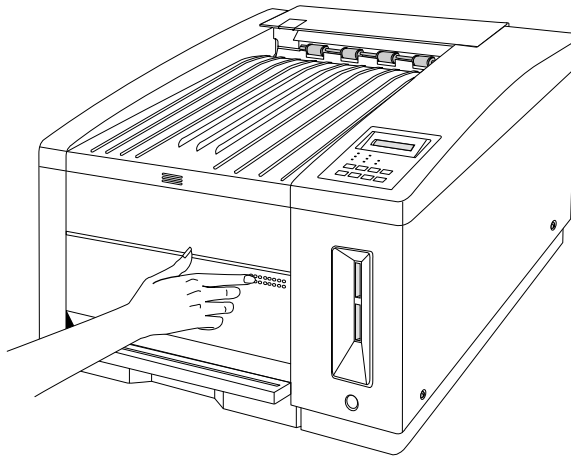

Fig. 6.10 *Open the Manual Feed Tray*
1. Open the manual feed tray by lightly pressing on the top-right corner (fig. 6.10), and then tilt the tray out and down.